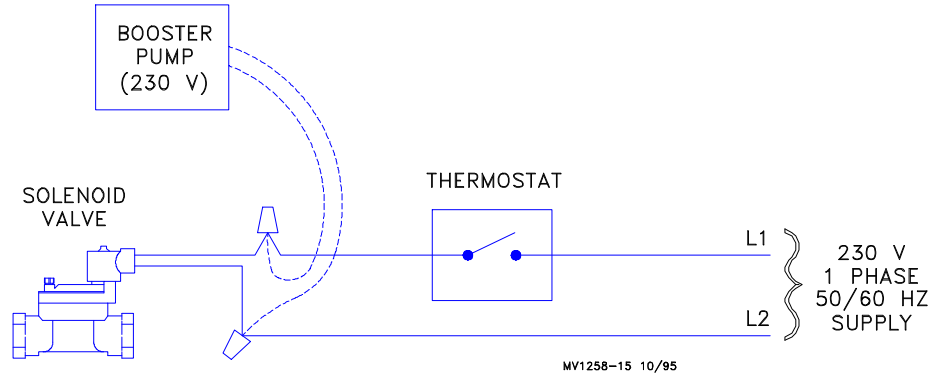

Figure 11. System wiring when controlled by a single thermostat.
- n The most basic control for the Spray Pad Evaporative Cooling System is a single thermostat. The thermostat should be wired to open the solenoid when the temperature rises above the thermostat set point. **See Figure 11.**